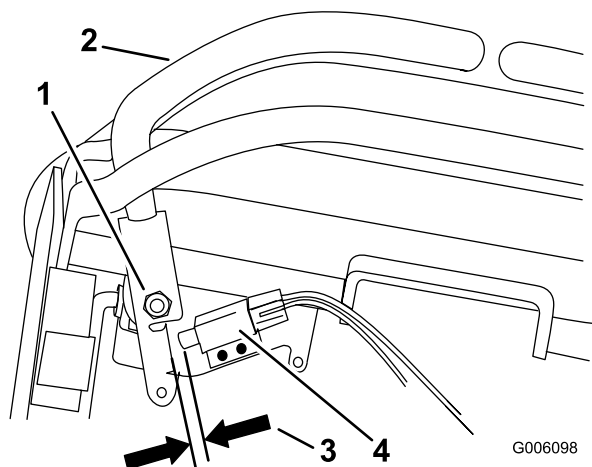

Figure 53
10. Check the gap between the control lever and switch as shown in Figure 53. The gap needs to be an 1/8 inch (3mm).